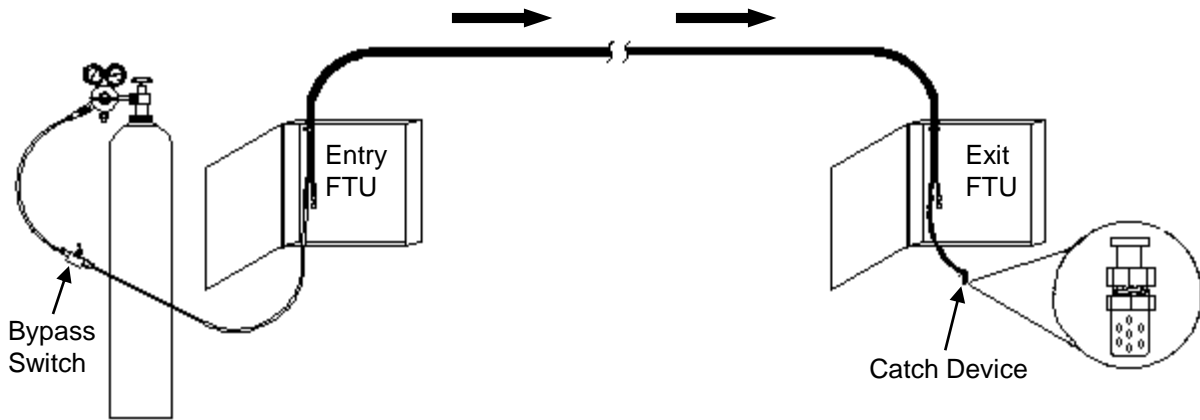

Figure 2
5.1 See Fig. 2 for Obstruction Test Equipment layout.